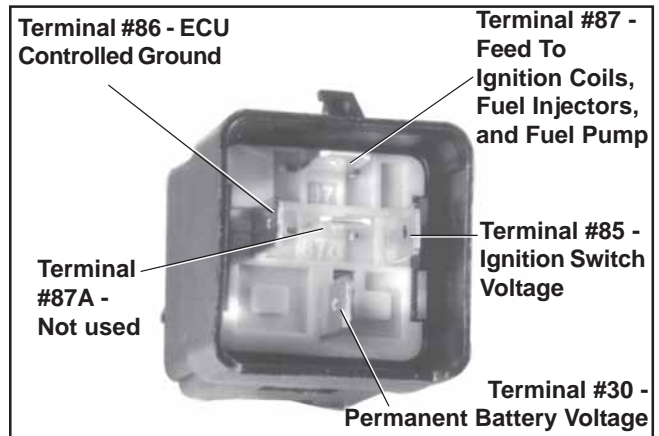

Figure 5B-13. Relay Terminal Details.
5. Connect an ohmmeter (Rx1 scale) between the #85 and #86 terminals in the relay. There should be continuity. See Figure 5B-13.